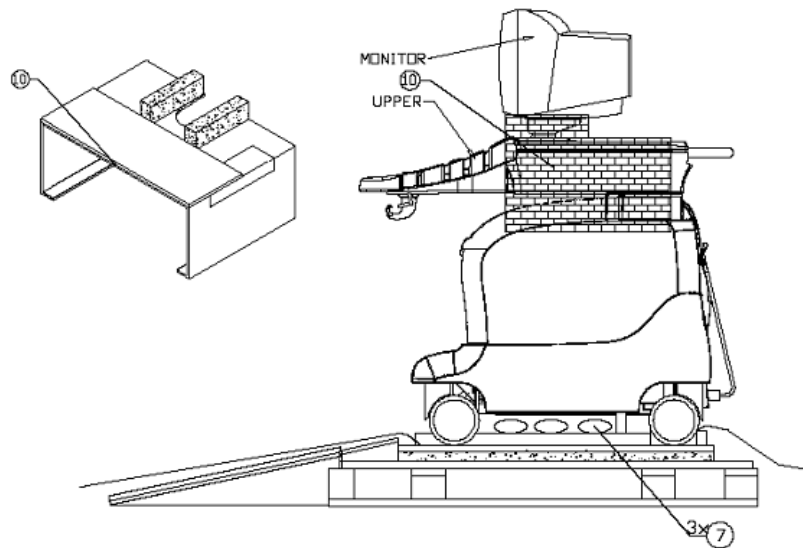

Figure 3-9 Unit in Shipping Carton - Right View
- 8) Pull out and remove the monitor support (item 10 in Figure 3-9 below) from under the base of the monitor.